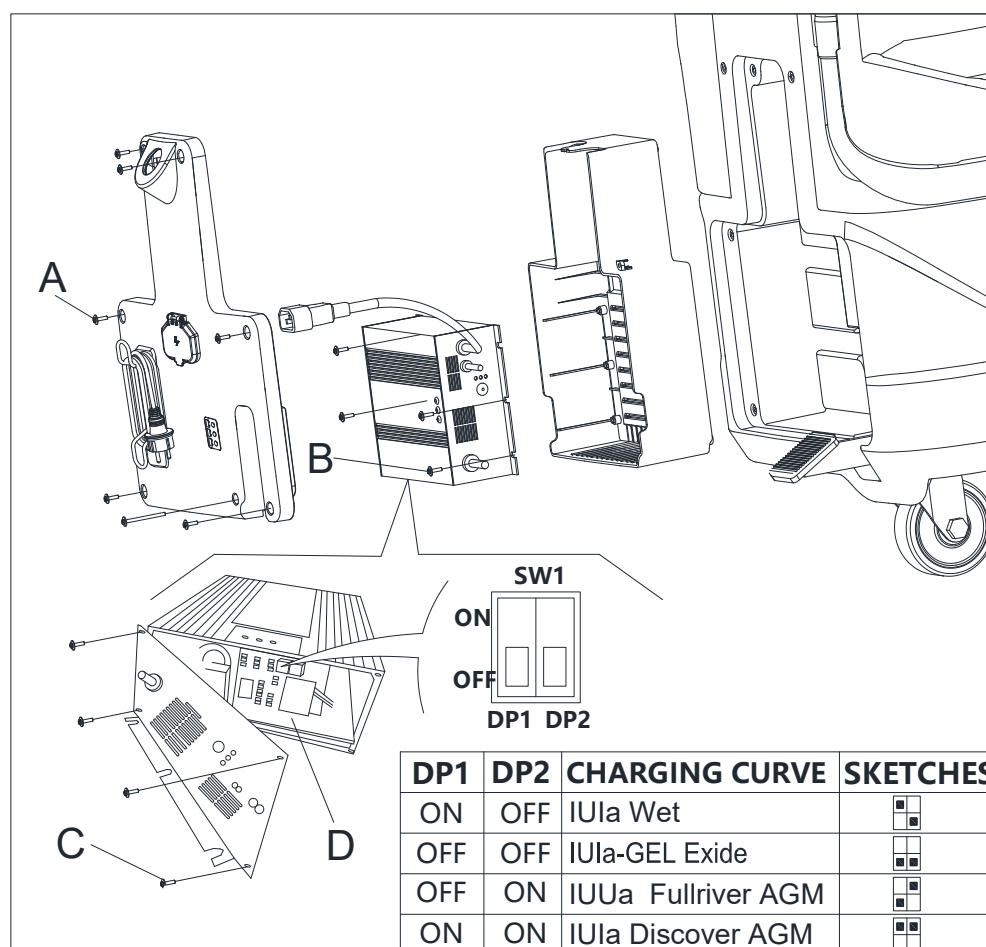

Figure 4.1
11. Remove the screws (A, B, C, Figure 4.1).
12. Open the charger and find the sw1 (D, Figure 4.1).
13. Set the switches as the table of Figure 4.1.
14. Install the screws (A, B, C, Figure 4.1) after setting complete.